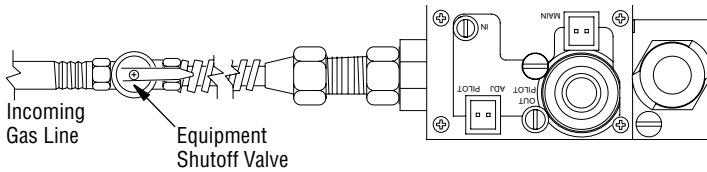

Figure 25 - Turning Equipment Shutoff Valve to the OFF Position
3. Turn equipment shutoff valve clockwise  to the OFF position (see **Figure 25**). Do not force.
4. Wait five (5) minutes to clear out any gas. Then smell for gas, including near the floor. If you smell gas, STOP! Follow "B" in the safety information. If you don't smell gas, go to the next step.